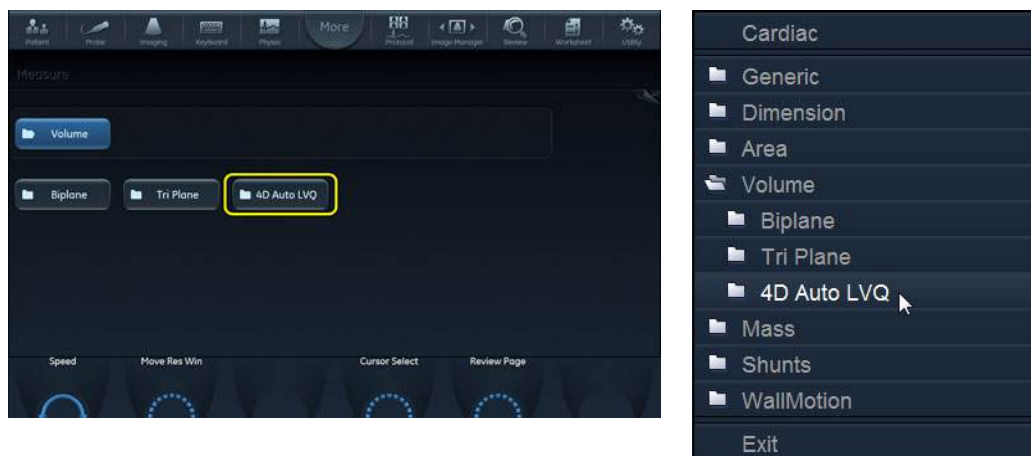

Figure 8-43. 4D Auto LVQ measurement selection
3. Select **Volume/4D Auto LVQ** (Figure 8-43).